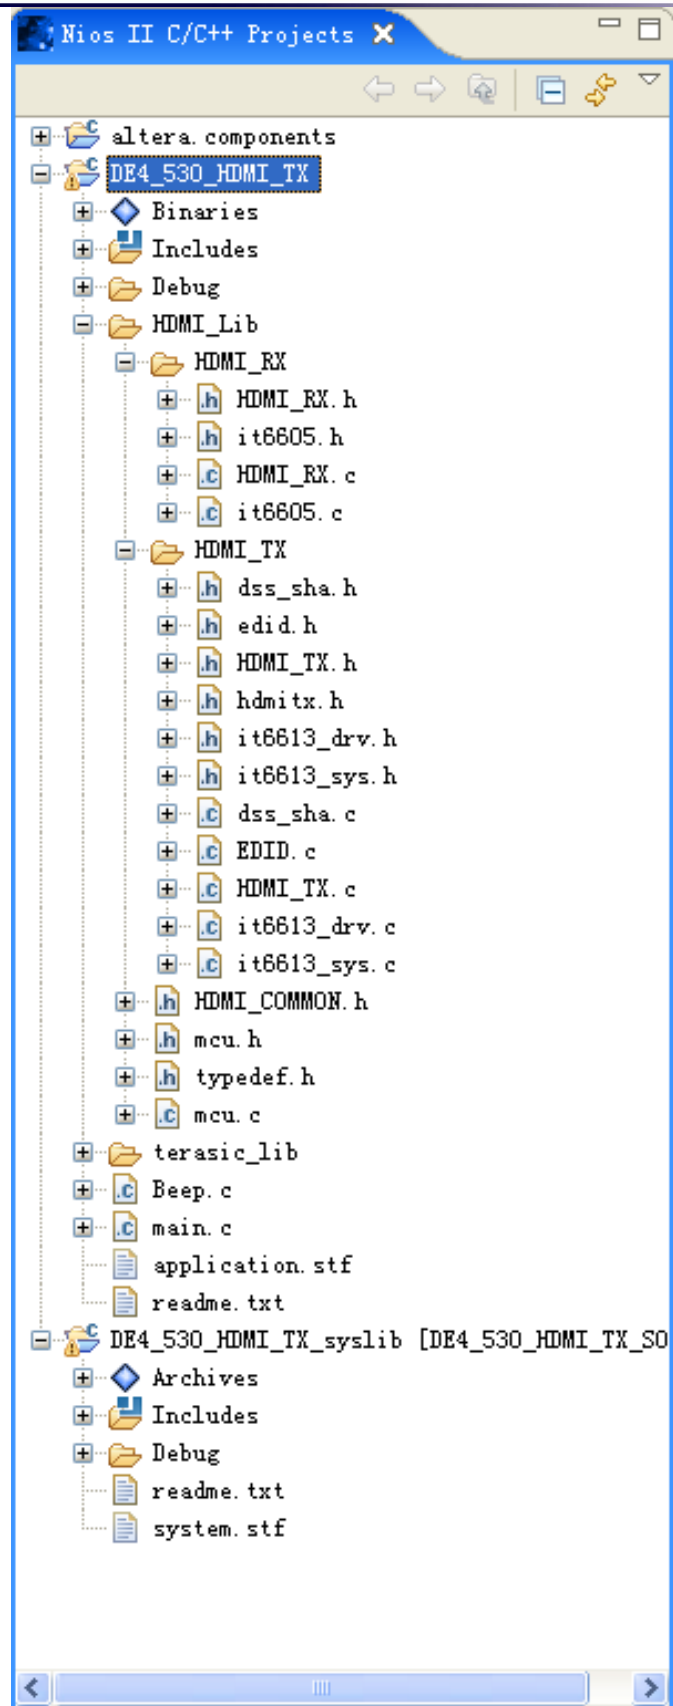

Figure 4-3 Nios II Program File List
**Figure 4-3** shows the file list of the Nios II program. The control center is located in main.c. The beep.c includes audio raw data for generating a tone sound. The folder named terasic\_lib includes the I2C driver. The folder named HDMI\_Lib includes transmitter drivers. The platform-dependent functions are located in mcu.c under HDMI\_Lib.